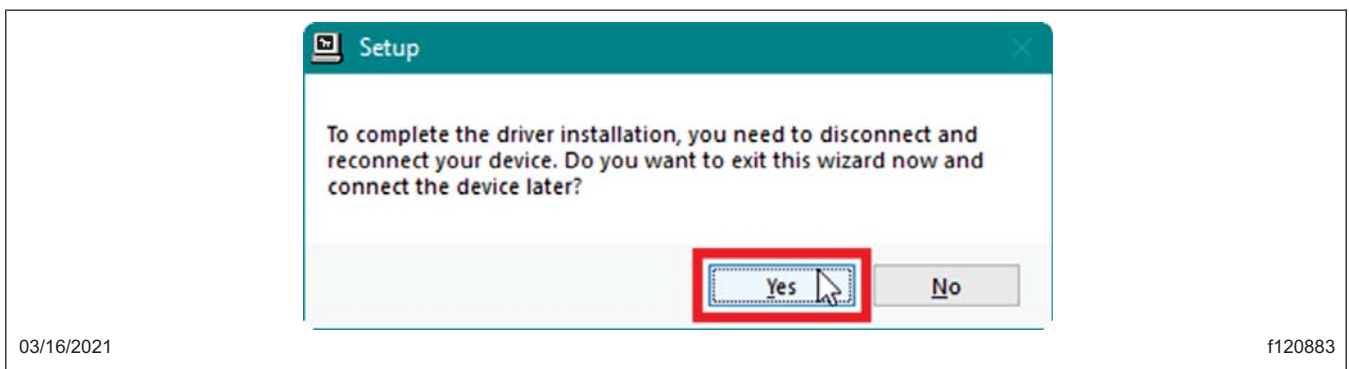

Fig. 23, Completing the Driver Installation Setup
- 7.17 When the 'Setup' dialog box appears, select 'Yes.' See Fig. 23.